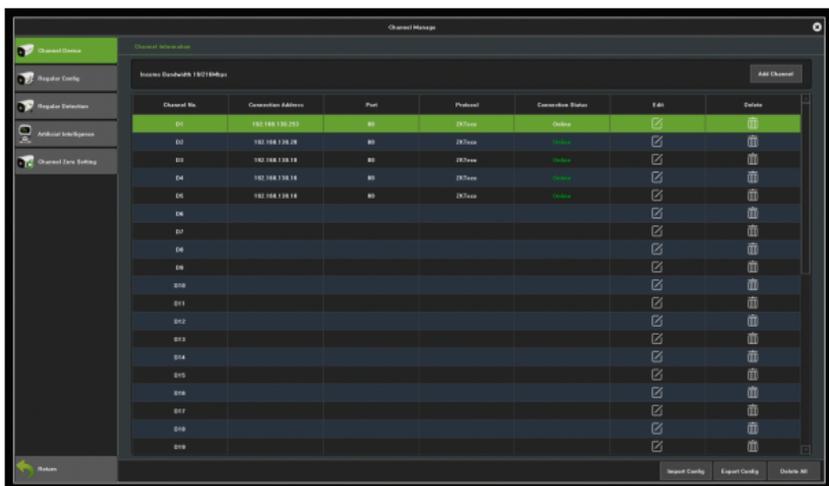

Figure 7.1 Interface of Quick Adding of IP Cameras
- 1) Click on the  icon , enter the “Channel Information” interface, as shown in Figure 7.1.